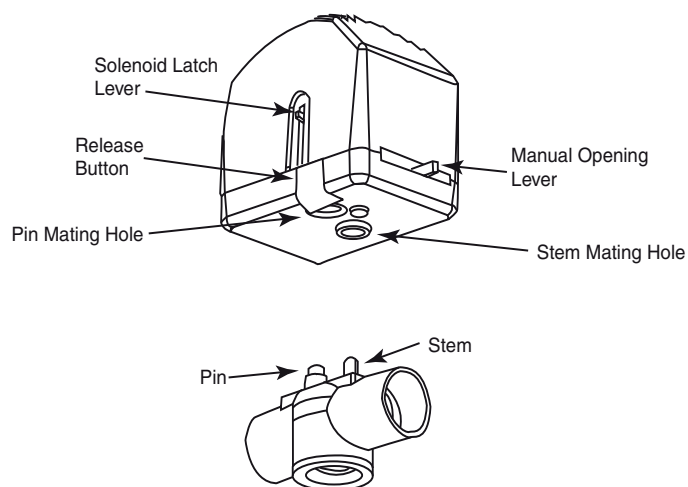

Figure-9 Three-Way Spring Return Valves.
- 2. With the valve in the mid-position, latch the solenoid by placing the manual solenoid latch lever in the "Up" position. Then, detach the actuator by depressing the release button and pulling it away from the valve body (Figure-9).
Note: When installing threaded valves, the actuator should be detached from the valve body to ease installation. To do so, first slowly move the actuator's manual operating lever (on the front of the actuator) to the middle position. Then latch the solenoid by placing the red manual solenoid latch lever on the side of the actuator to the "Up" position. Finally detach the actuator by depressing the release button and pulling the actuator away from the valve body (Figure-9).
1. Before reinstalling the actuator, be sure that its manual operating lever is in the mid-position, and that the solenoid is latched. The solenoid is latched when the manual solenoid latch lever is in its "Up" position (Figure-9).
3. Align the valve body with the actuator to ensure the stem is inserted into the large mating hole on the bottom side of the actuator (Figure-9).